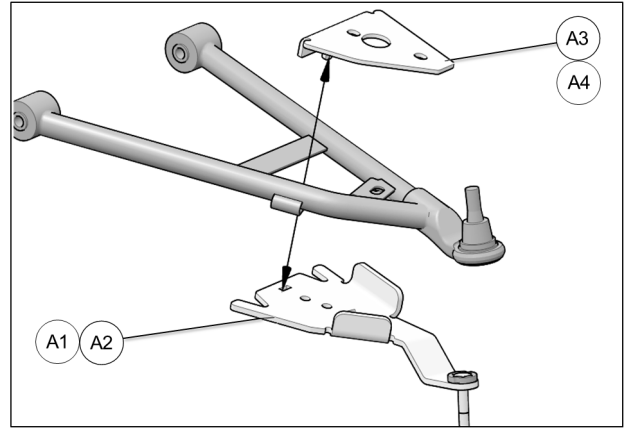

Fig. 16
5. Position bottom part of anchor bracket (A1-A2) assembly under front lower suspension arm, as shown in the figure below. Position bracket cover (A3-A4) over suspension arm and align holes in cover and bottom part. Refer to Fig. 16